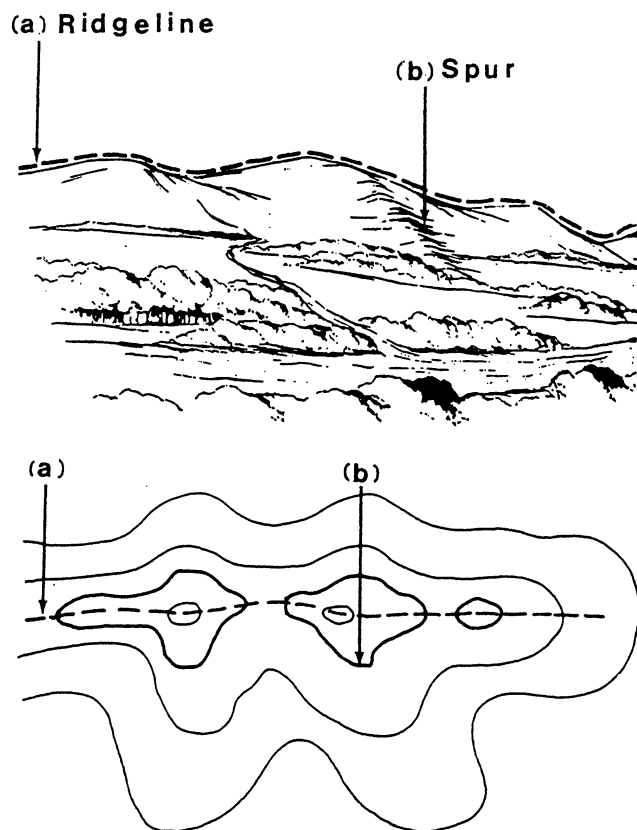

Figure 5-13.—(a) Ridge; (b) Spur.
4. RIDGE. Normally, a ridge is a line of high ground with minor variations along its crest. (See fig. 5-13, views A and B, top and bottom.) The ridge is not simply a line of hills; all points of the ridge crest are appreciably higher than the ground on both sides of the ridge.
5. SPUR. A spur is a short, continuously sloping line of higher ground normally jutting out from the side of a ridge. (See fig. 5-13, views A and B, top and bottom.) A spur is often formed by two roughly parallel streams cutting draws down the side of a ridge.